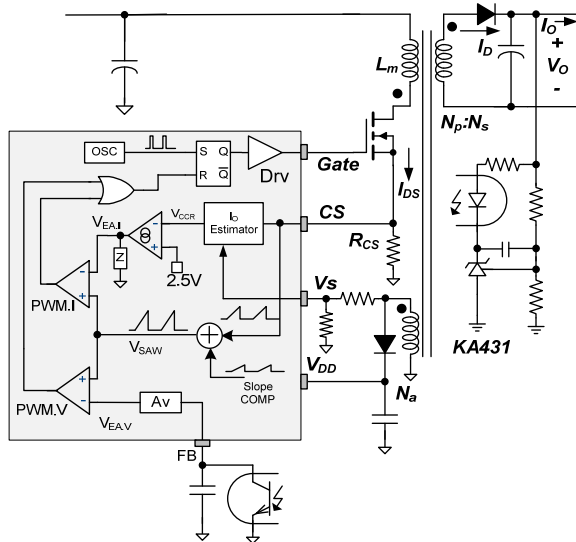
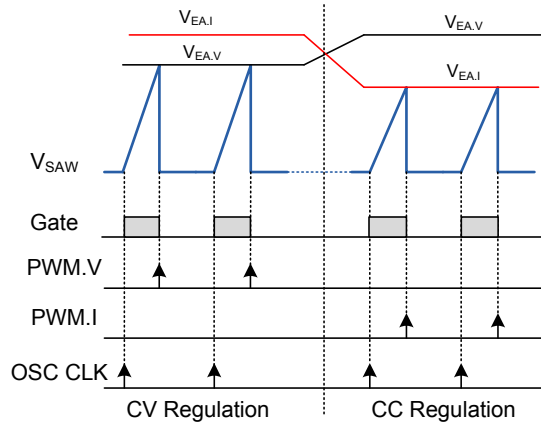

Figure 24. Internal PWM Control Circuit
Figure 25. PWM Operation for CC and CV
Figure 24 shows the internal PWM control circuit. The Constant Voltage (CV) regulation is implemented in the same way as in a conventional isolated power supply, where the output voltage is sensed using a voltage divider and compared with the internal 2.5 V reference of shut regulator (KA431) to generate a compensation signal. The compensation signal is transferred to the primary side using an opto-coupler and scaled down through an attenuator,  $A_v$ , generating  $V_{EA,V}$  signal. Then, the error signal  $V_{EA,V}$  is applied to the PWM comparator (PWM.V) to determine the duty cycle.
The two error signals,  $V_{EA,I}$  and  $V_{EA,V}$ , are compared with an internal sawtooth waveform ( $V_{SAW}$ ) by PWM comparators PWM.I and PWM.V, respectively, to determine the duty cycle. Figure 24 shows the outputs of two comparators (PWM.I and PWM.V) combined with OR gate and used as a reset signal of flip-flop to determine the MOSFET turn-off instant. Of  $V_{EA,V}$  and  $V_{EA,I}$ , the lower signal determines the duty cycle, as shown in Figure 25. During CV regulation,  $V_{EA,V}$  determines the duty cycle while  $V_{EA,I}$  is saturated to HIGH. During CC regulation mode,  $V_{EA,I}$  determines the duty cycle while  $V_{EA,V}$  is saturated to HIGH.